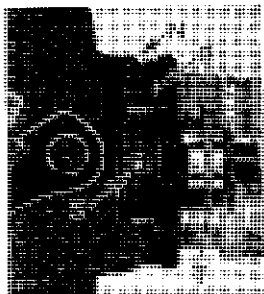

FIGURE 17
When it is desired to turn the turret to take a scene through another lens, grasp the edge of the head and revolve it in either direction until the desired lens is in position. An audible click tells when the lens is properly seated, as does a feeling of the revolving motion being automatically stopped at the correct spot and the registration of the index mark on the turret head with the word "Run" on the camera proper. (See Figure 17, page 27.) *The starting button is automatically locked until a lens is correctly seated*—a feature which saves film and disappointments.
28. When the camera is loaded, wound, and properly held, and when the turret head and lens diaphragm are properly set and the subject is framed in the viewfinder, it is only necessary to press the starting button (N, Figure 17, Page 27) to begin taking motion pictures.
(N, Figure 17, Page 27) to begin taking motion pictures.
curled disc (B, Figure 17, Page 27) which may be
31. The starting button of the Filmo 70-DA Camera may be locked, if desired, to prevent accidental starting of the camera. This is done by revolving the turret so that any one of the three index marks on the edge of the turret head falls opposite the word "Lock" (Figure 17, Page 27) on the camera proper. To release, turn the turret until the desired lens is at the aperture, when an index mark will fall opposite the word "Run."
33. Revolve the turret head to bring the lens to be focused into the position of the lens T, in Figure 17, where it is held fast and in proper alignment by a safety catch, which gives the feeling of the revolving motion of the turret being stopped. Then point the camera to the object you desire to photograph and sight through the eyepiece (S, Figure 17). If you hold the camera right side up or have it on a tripod you will see, in a circular field, an inverted and greatly magnified image of the central portion of your subject. If you find it more convenient to see a non-inverted image, hold camera on its side.